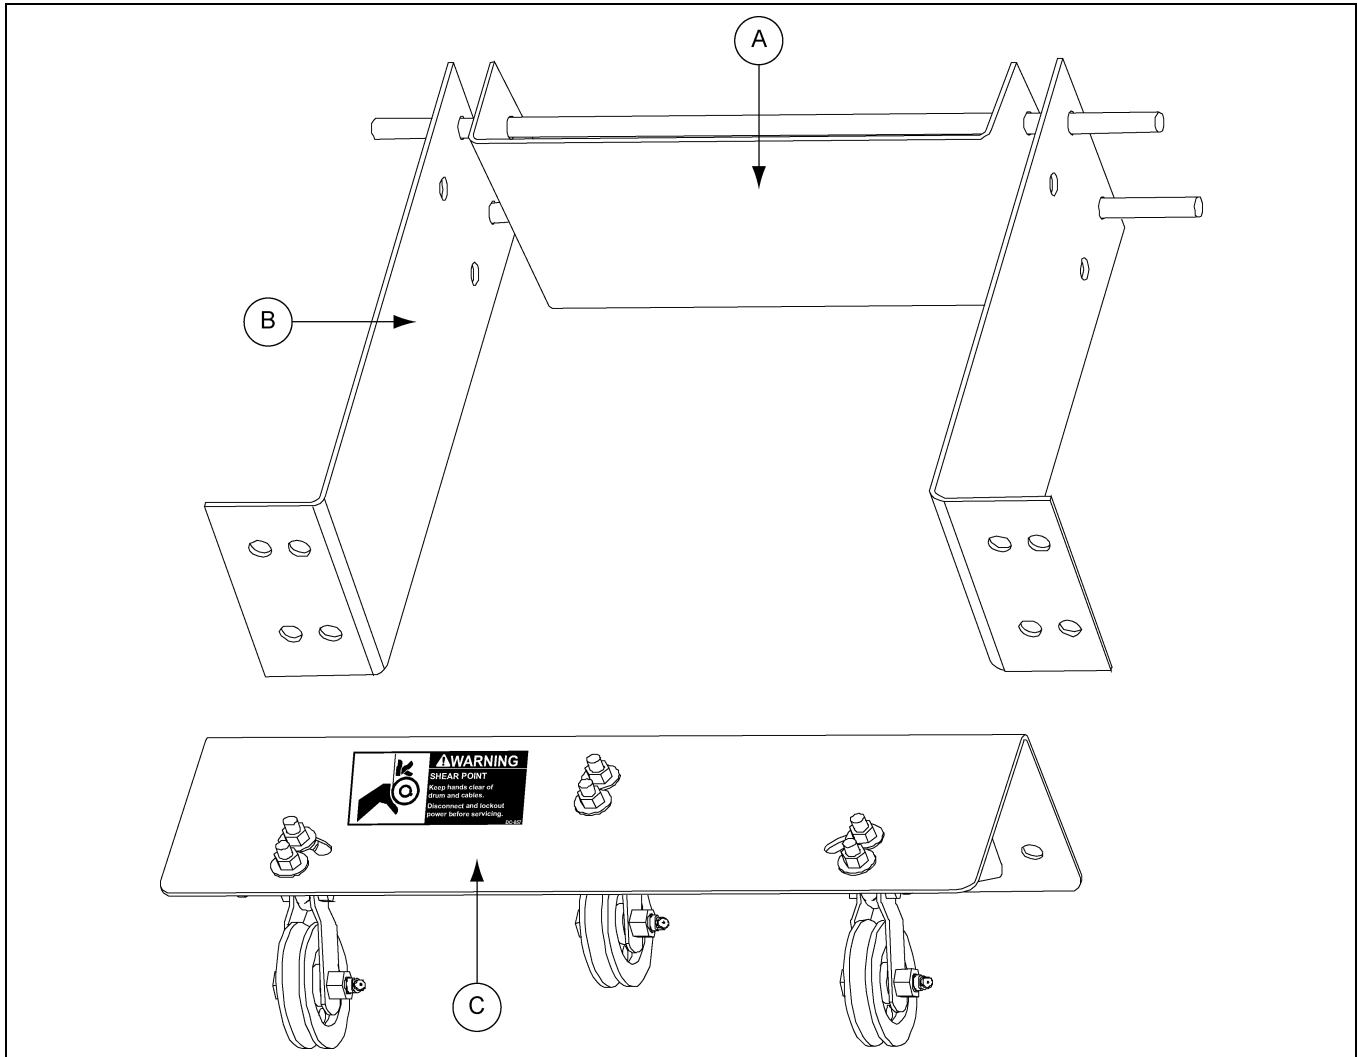

Figure 5D Trunking Removed for Clarity
Once the location of the upper cable guide assembly is determined, it must be fastened to the trunking. The assembly of the clamp band and upper cable guide assembly (C) is shown in Figure 5D. The 1/2" x 2" bolts and nuts that fasten the clamp bands to the upper cable guide assembly are provide in the hardware package (FC-DCG-HDW).